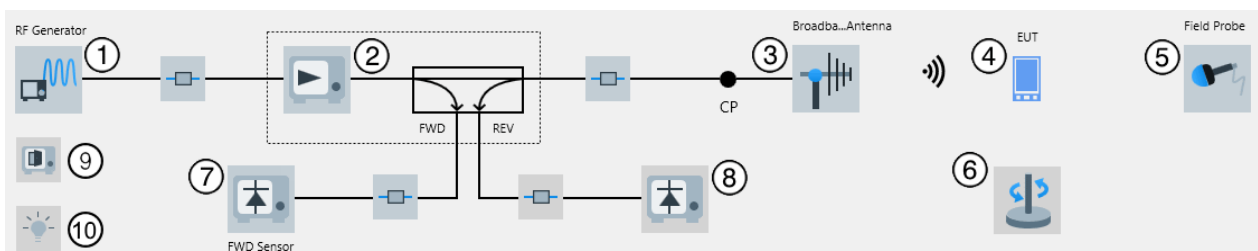

Figure 4-151: EMS hardware setup diagram (radiated) for an Anechoic Chamber in EUT Test View
- The "EUT Test View" (see Figure 4-151)
If you select a receiver instead of the field probe (default for (5) in Figure 4-151), the hardware setup also requires an antenna. The diagram changes as follows: